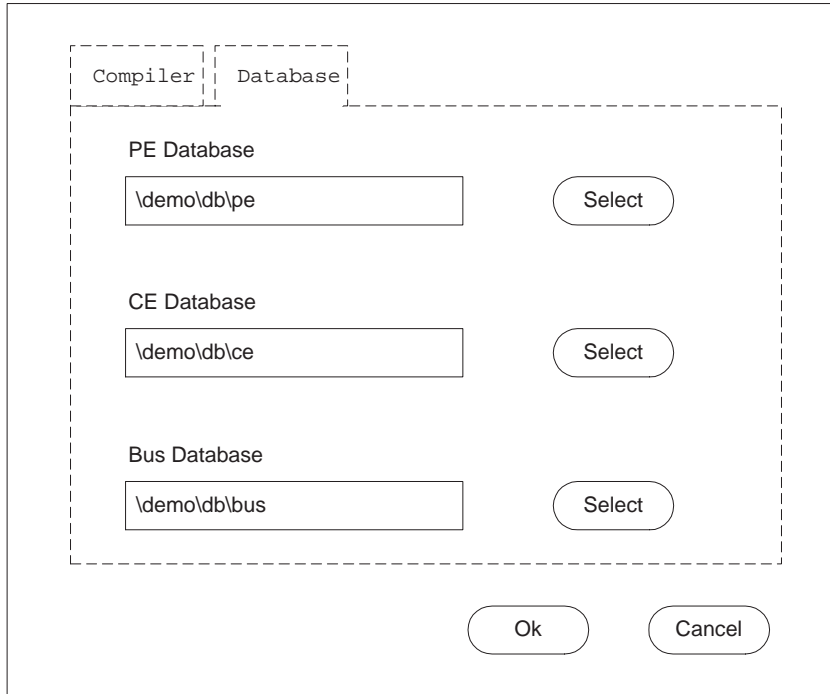
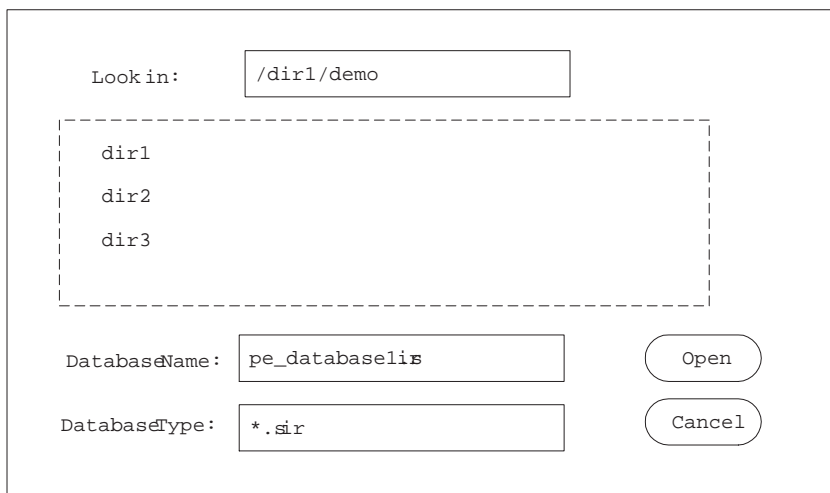

Figure 15: Edit Preferences dialog (Database tab).
Figure 16: Database Selection dialog.
- (b) The Database tab allows for viewing and selecting of database file paths. The screenshot for Database tab is shown in Figure 15. Users can type in the file names and paths of PE, CE, and Bus databases in *PE Database*, *CE Database*, and *Bus Database* line edit boxes. Besides typing in the databases file names, users can also select the names by using *Select* buttons next to the edit boxes. Clicking *Select* button will pop up a Database Selection dialog displayed in Figure 16